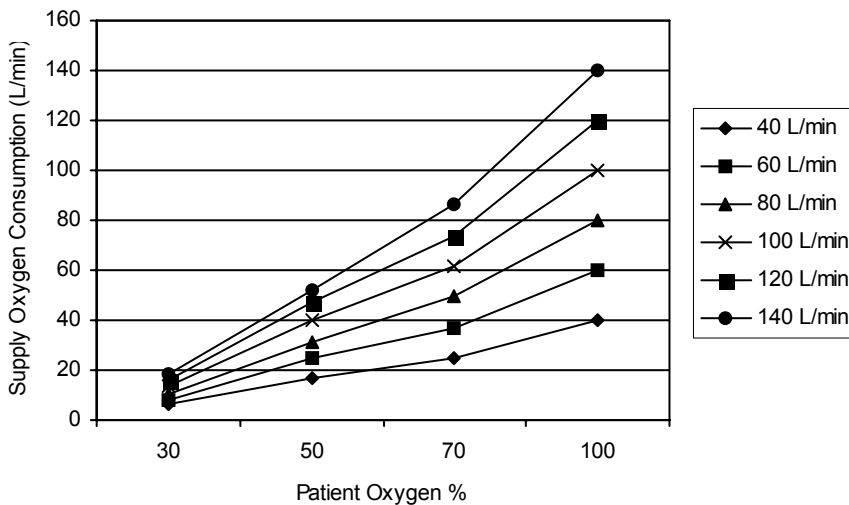

Figure 10. Oxygen supply consumption at several flow and oxygen settings
- For flow requirements see Figure 10.